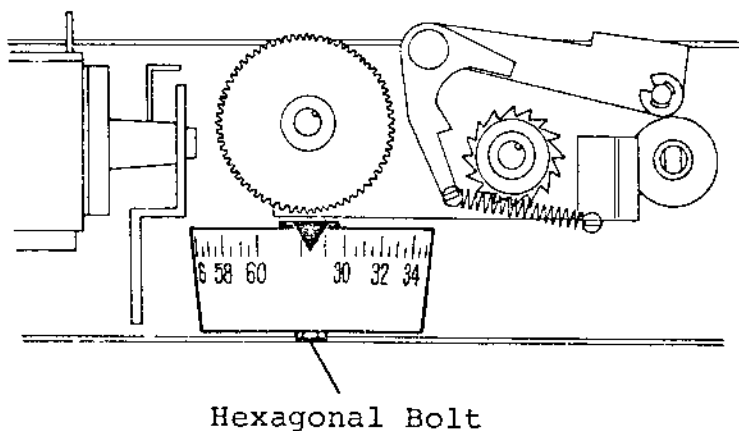

Fig. 131
2. Loosen the Hexagonal Screw as shown in Fig. 131, and turn the Set Wheel so that the Row Scale is set between 30 and 60. Afterwards fasten the Hexagonal Bolt temporarily.